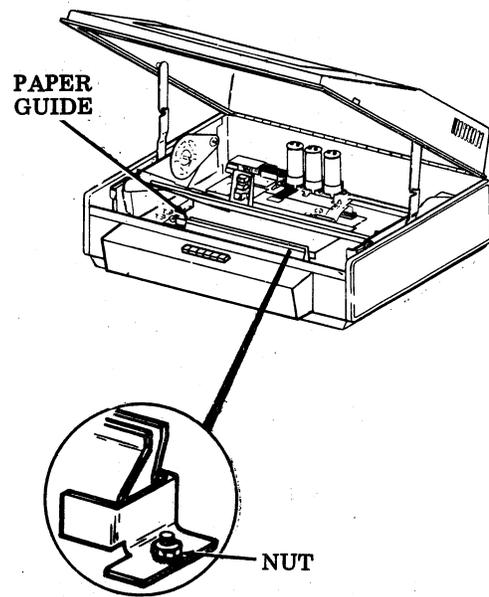

Fig. 20—Controller Removal
- (a) Loosen nut at each end of paper guide (Fig. 20).